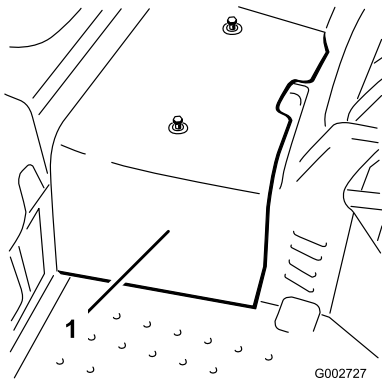

Figure 39
2. Loosen the 2 screws securing the center shroud to the machine and remove the shroud (Figure 39).